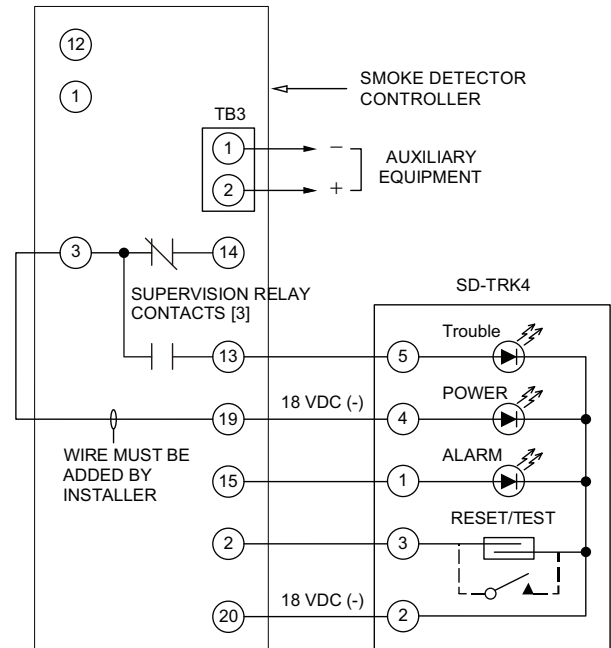

Fig. 41 — Remote Test/Reset Station Connections
be wired to the controller as shown in Fig. 41 and configured to operate the controller's supervision relay. For more information, see "Changing the Dirty Sensor Test."
1. Verify that the remote test/station is wired as shown in Fig. 41. Repair or replace loose or missing wiring.